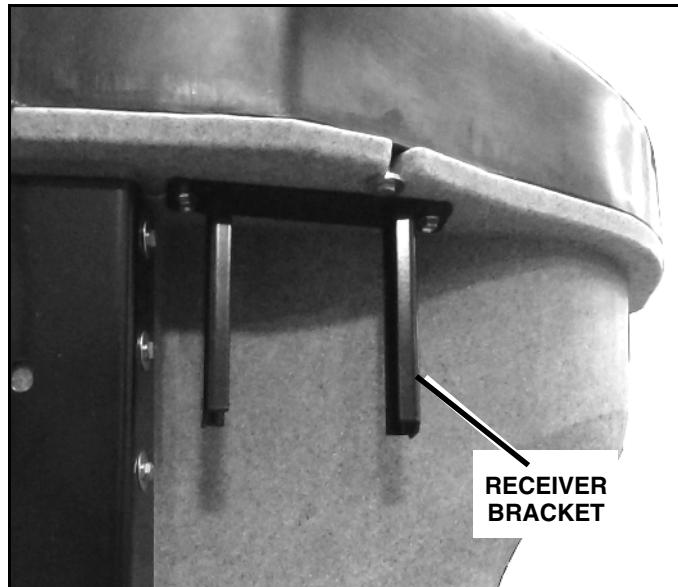

Figure 1-7
2. Remove the receiver bracket from the package and place it under the top lip of the spreader hoper on the driver's side (See Figure 1-7).